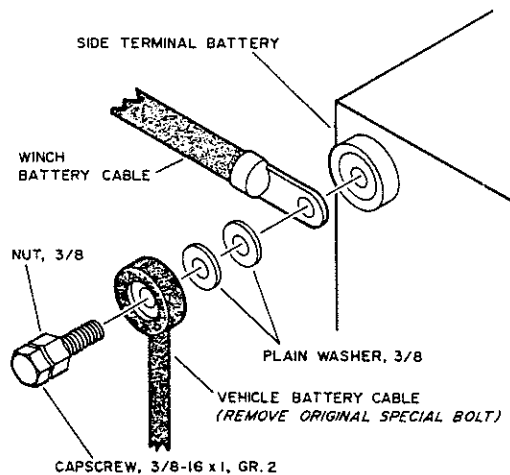

FIGURE 9
- b. Refer to **Figure 9** for attachment of the winch battery cables to a side terminal battery.